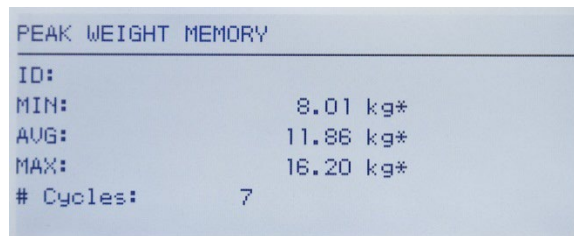

Figure 4-19: Peak Weight Memory Display
Focus should be on the REPORTS icon , so press ENTER  to access the memory view. The Peak Weight Memory screen will appear as seen in Figure 4-19.
Figure 4-19 shows the Peak Weight Memory screen. The fields in this screen are updated at the end of each peak weight cycle.
1. While viewing the Peak Weight Memory screen (Figure 4-19), pressing the CLEAR key  will trigger an operator message requesting confirmation to clear the memory.